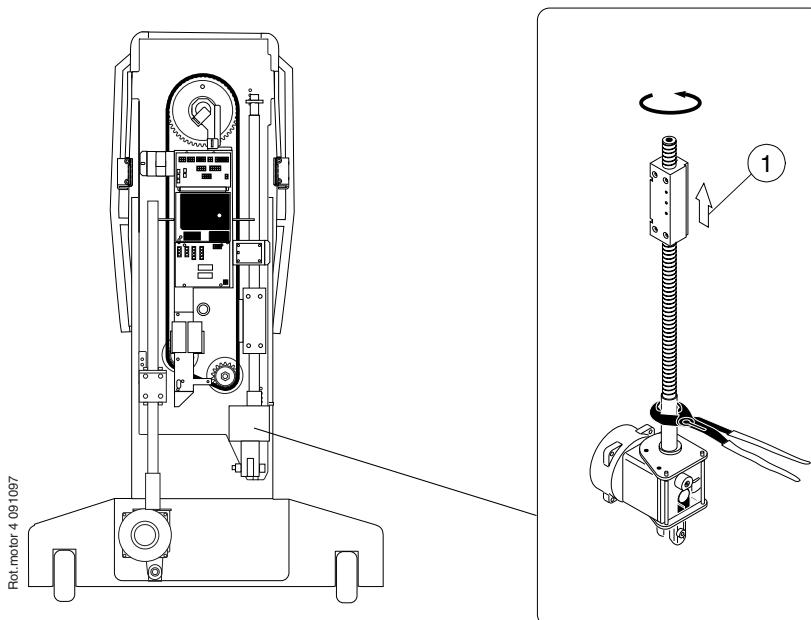

Figure H.35
- f) Unscrew the worm-screw nut by rotating the worm-screw with the clamp, or by driving the motor (see Fig. H.35).
- m) Unscrew the worm-screw nut by rotating the worm-screw with the clamp (Fig. H.35, 1).